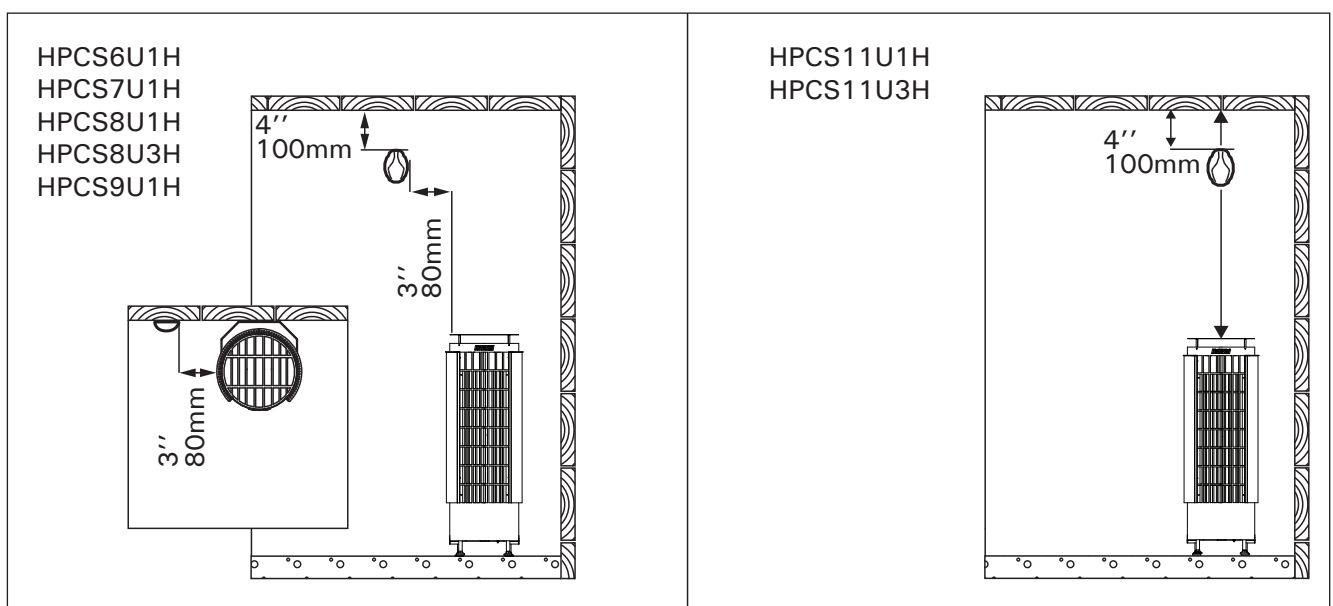

Figure 6. Installing the temperature sensor
**Install the sensor (WX248), which comes with the heater, as shown in figure 6.**